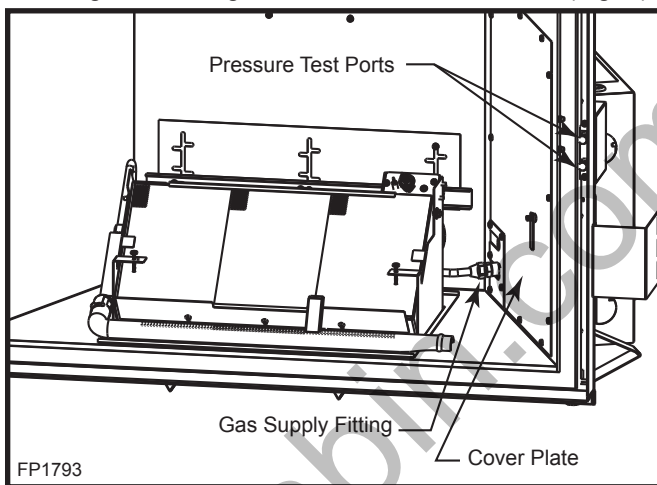

Fig. 8 Disconnect gas supply fitting and remove 13 screws securing the cover plate.
5. Using a back-up wrench, disconnect the gas supply fitting near the right rear corner of the firebox. (Fig. 8)
NOTE: If you need to test the inlet pressure and/or manifold pressure, there are two (2) test ports available along the right side front edge between the firebox side and outer casing. The upper test port is inlet pressure. The lower test port is manifold pressure. (Refer to Figure 8)